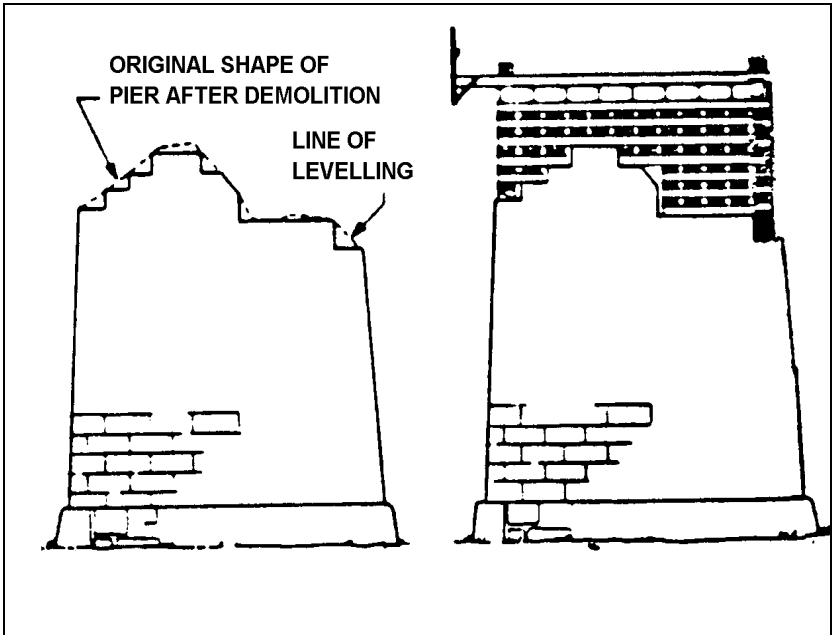

Fig 14-2-8 Levelling the Top of a Damaged Pier
15. Fig 14-2-8 shows how demolished piers can be used. The whole pier need not be levelled to the same height; all that is required are level beds for the parts of the crib which constitutes the new pier top. The initial difficulty is getting men and equipment onto the pier. One or two crowbars jammed into holes in the centre of the pier, made with shaped charges or rock drills, will provide anchorage to which ropes or safety belts can be attached.